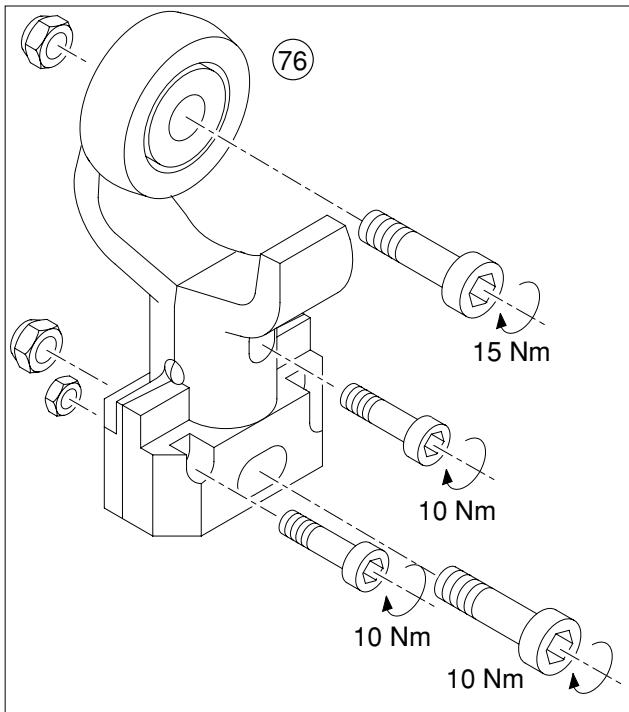

fig.25.1 Closing trolley
2. Connect up the ends of the cable with closing trolley 76. Install the trolley halves as shown in figure 25.1.